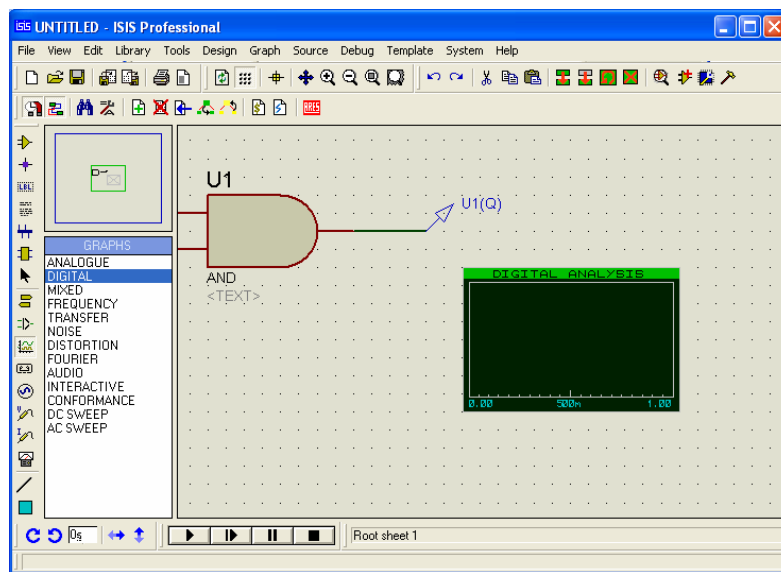

Figure 10 Example of digital analysis
2. Click on  and select "digital" from "Graphs" box then assign the are of digital display. The Green screen will appear as measurement monitor as shown in the figure 10